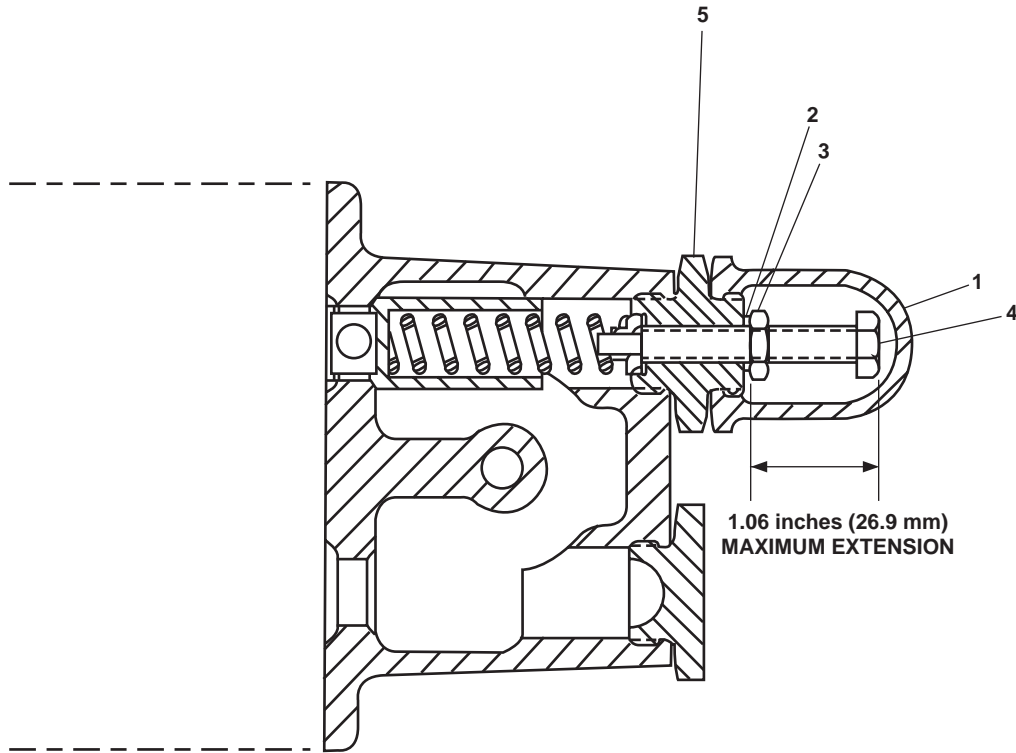

Figure 5. AFFF Pump Relief Valve
4. Remove the seal cap (figure 5, item 1) and gasket (figure 5, item 2). Discard the gasket.
5. Loosen the lock nut (figure 5, item 3) on the adjusting screw (figure 5, item 4).
6. Back the adjusting screw (figure 5, item 4) to the point where the end of the screw will be at the maximum extension of approximately 1.06 inches (26.9 millimeters) when measured from the relief valve bonnet (figure 5, item 5).
16. Turn the adjusting screw (figure 5, item 4) clockwise in $\frac{1}{2}$ turn increments until the relief valve lifts at the proper pressure.
18. Tighten the lock nut (figure 5, item 3), and recheck to discharge pressure.
22. Install a new gasket (figure 5, item 2) in the seal cap (figure 5, item 1).